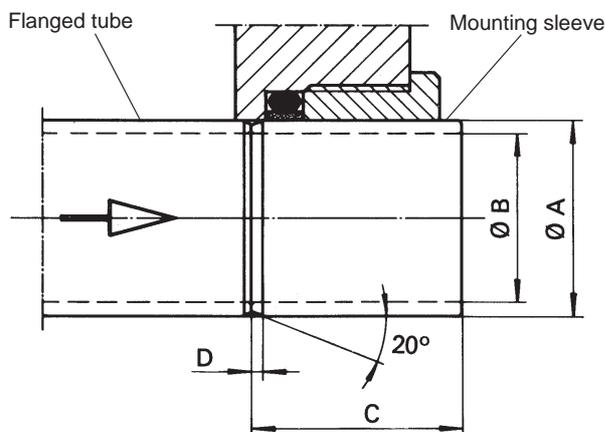

Fig. 4
4. Put back the flanged tube. This will be easier if a mounting sleeve is used; see Fig. 4. Lock the screws in the flanged tube with Loctite.